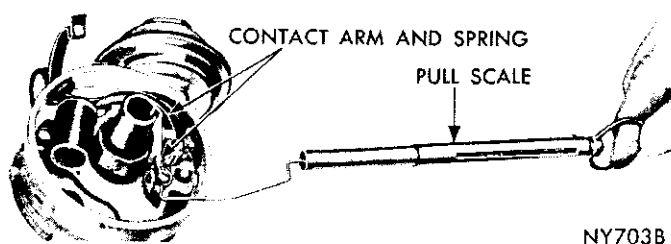

Fig. 7—Testing Contact Arm Tension Spring
(1) Hook a spring scale MTU-36 on contact arm and pull in a straight line at a right angle to the contact surfaces (Fig. 7). Take a reading as contacts start to separate under slow and steady pull of the scale. Spring tension should be 17 to 20 ounces. If reading is outside these limits, loosen the screw which holds